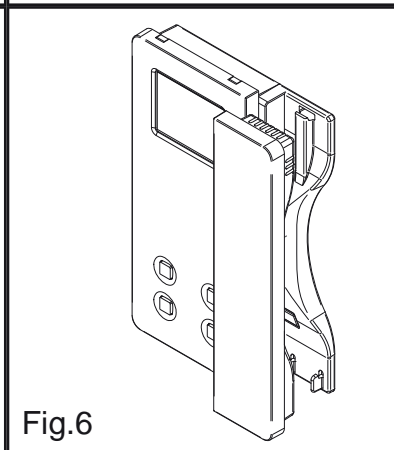

Fig.6
- Reconnect the handset and hang it as shown in figure 6.